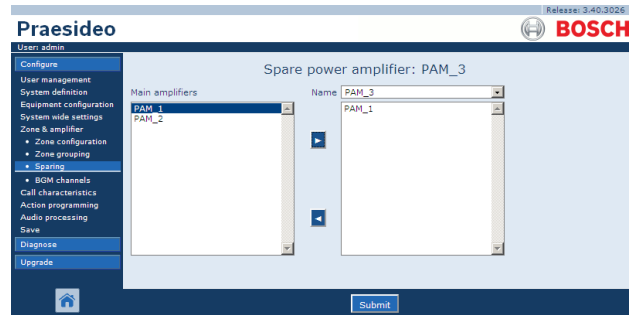

figure 45.11: *Sparing, step 1*
- 1 Go to *Configure > Zone & amplifier > Sparing*. A screen similar to the one in figure 45.11 appears in the main frame of the web interface.